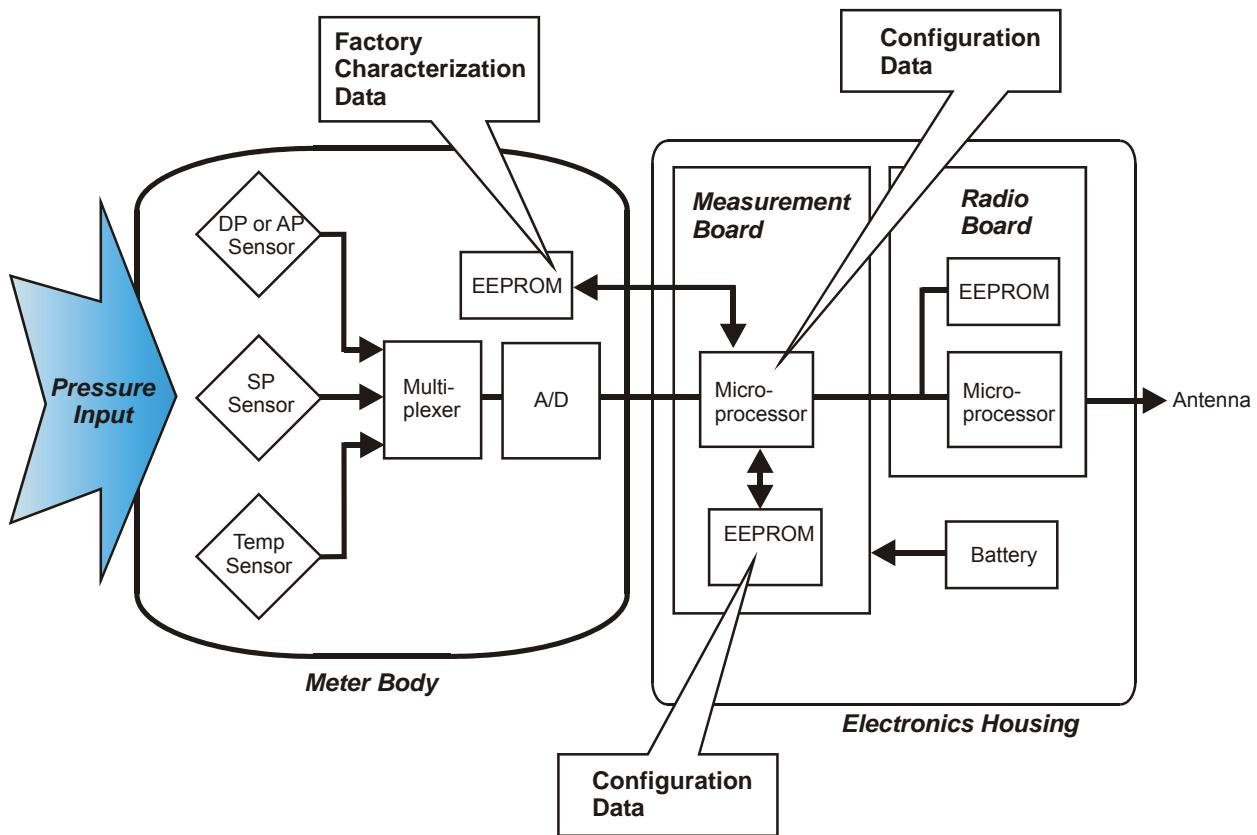

Figure 1 Xyr 6000 Functional Diagram
The transmitter measures the process pressure and transmits the measured value as a digital output signal in user-configured engineering units. Its major components are an electronics housing and a meter body as shown in Figure 1 (a typical differential pressure model transmitter).
The Process Variable (PV) is available for monitoring and alarm purposes. Available PV update rates: 1, 5, 10, 30 seconds and are set on Wireless Builder. Slower update rates extend battery life. The meter body temperature is also available as a secondary variable for monitoring. Figure 1 shows a block diagram of the XYR 6000 Pressure transmitter's operating functions.